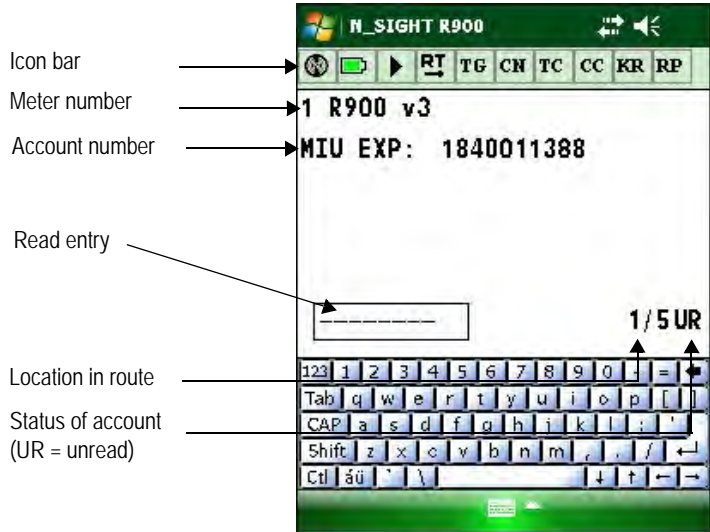

Figure 6.1 N_SIGHT R900 Reading Entry Screen
- 1 If you have not already done so, first log into N_SIGHT R900 on the handheld, so that a reading-entry screen is appears in the display. See Figure 6.1 on Page 6-2.